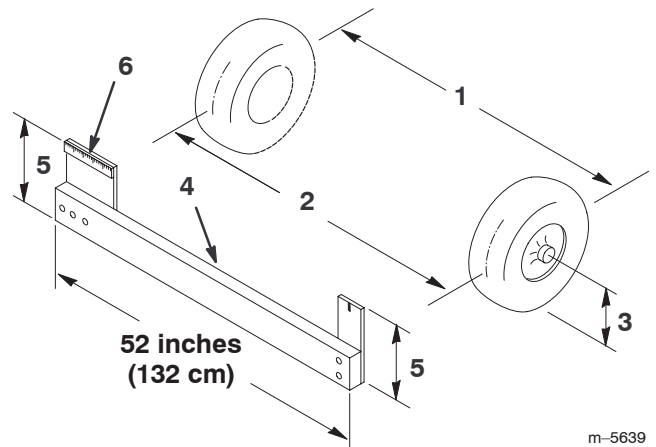

Figure 34
- Measure the distance between both of the front tires at the axle height at both the front and rear of the front tires (Fig. 34). A fixture or alignment gauge is needed for the rear measurement of the front tires at axle height. Use the same fixture or alignment gauge to accurately measure the front of the front tires at axle height (Fig. 34).